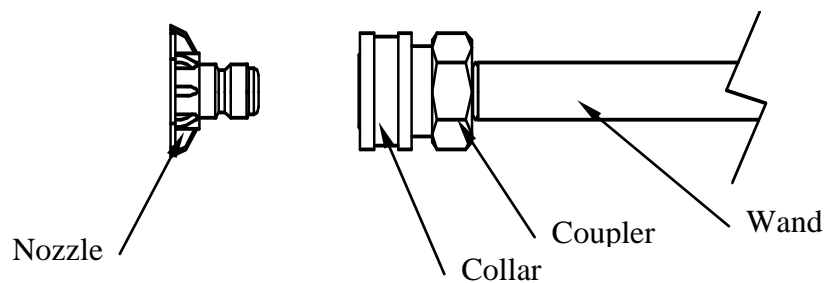
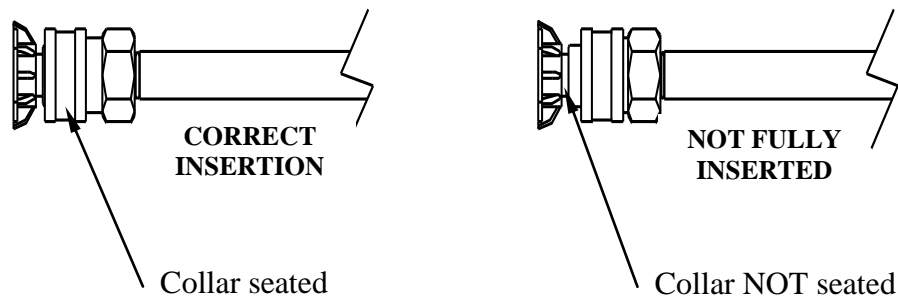

Figure 10a
Figure 10b
- To install the nozzle, push the nozzle firmly into the coupler end until the collar snaps forward to secure the nozzle in place. (Figure 10a)
3. Pull back on the collar to remove the nozzle, the nozzle will pop out. The collar should return to the original position. (Figure 10a) *Check the connection by pulling on the nozzle to ensure a tight connection -- if correctly inserted, nozzle will rotate but not pull out.* (Figure 10b)